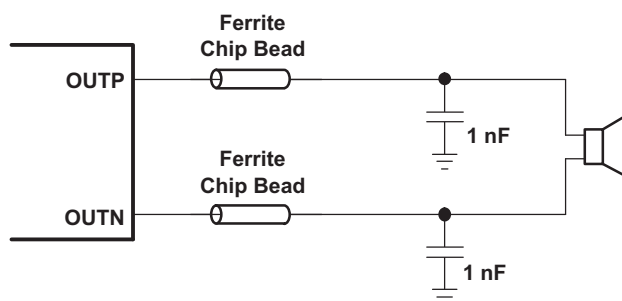

Figure 20. Typical Ferrite Chip Bead Filter (Chip Bead Example: NFZ2MSM series from Murata)
- **Output filter**—The ferrite EMI filter (Figure 20) should be placed as close to the output pins as possible for the best EMI performance. The capacitors used in the ferrite should be grounded to power ground.